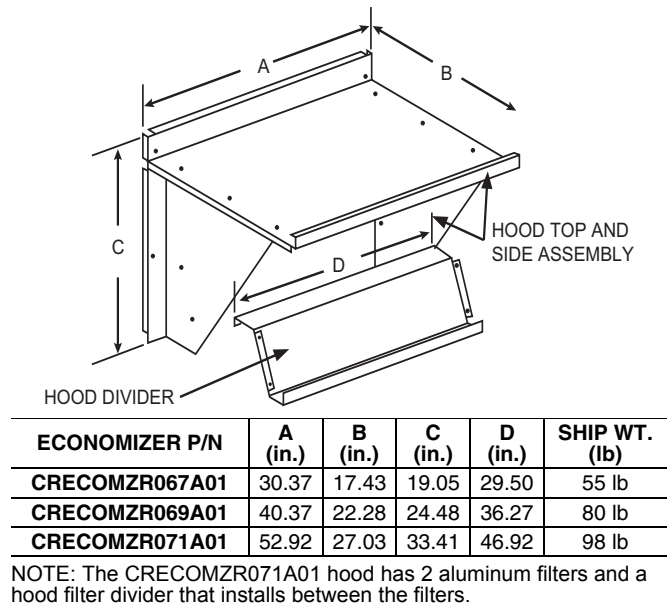
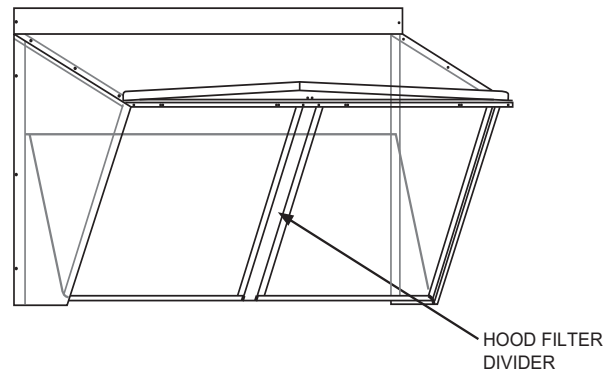

Fig. 17 — EconoMiSer® X Hood Assembly
Fig. 18 — Filter Divider on CRECOMZR071A01 Hood
22. Assemble the EconoMiSer X hood by screwing the hood divider to the hood subassembly (top and sides). See Fig. 17. Note on the CRECOMZR071A01 there is also a center hood filter divider; screw in place. See Fig. 18.